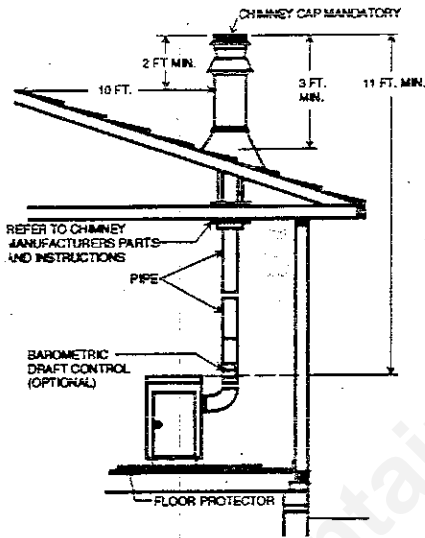

FIG. 5
1. The chimney connection should be as possible. The heater must have its own chimney flue. Do not connect this unit to a chimney flue serving another appliance. If there is no chimney near where you wish to place the heater, you can use a UL 103HT Residential Type and Building Heating Appliance Chimney (Fig. 5, 6, 6A & 6B).